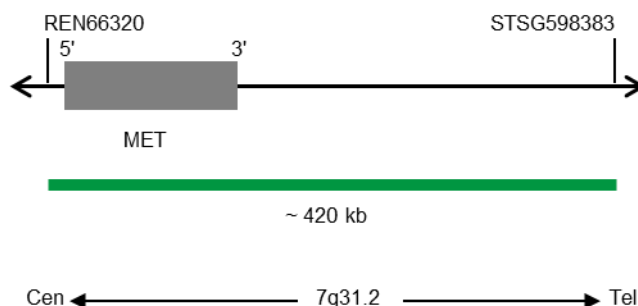

Fig. 1: SPEC MET Probe map (not to scale)
- Digoxigenin-labeled polynucleotides (~1.1 ng/μl), which target sequences mapping in 7q31.2* (chr7:116,298,989-116,718,699) harboring the MET gene region (see Fig. 1).